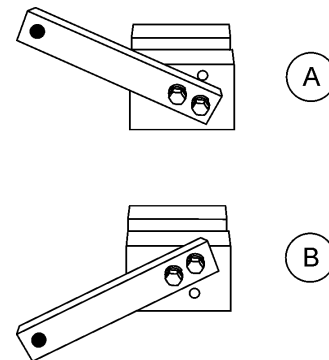

Figure 41. Trowel Arm Adjustment Setup
2. Ensure the fixture arm is in the proper setting (up or down) for your trowel arm rotation as shown in Figure 41.